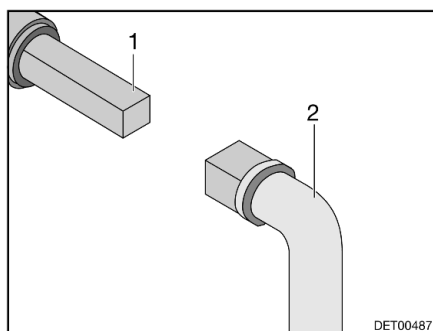

Fig. 103 Operation of the waste water tap
- Place key (Fig. 103,2) onto the square bolt (Fig. 103,1).